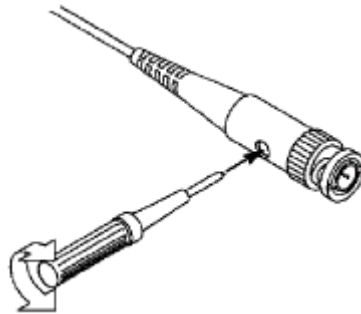

Figure 0-7 Adjust Probe
2. Check the displayed waveforms and regulate the probe till a correct compensation is achieved (see *Bild 0-6* and *Bild 0-7*).